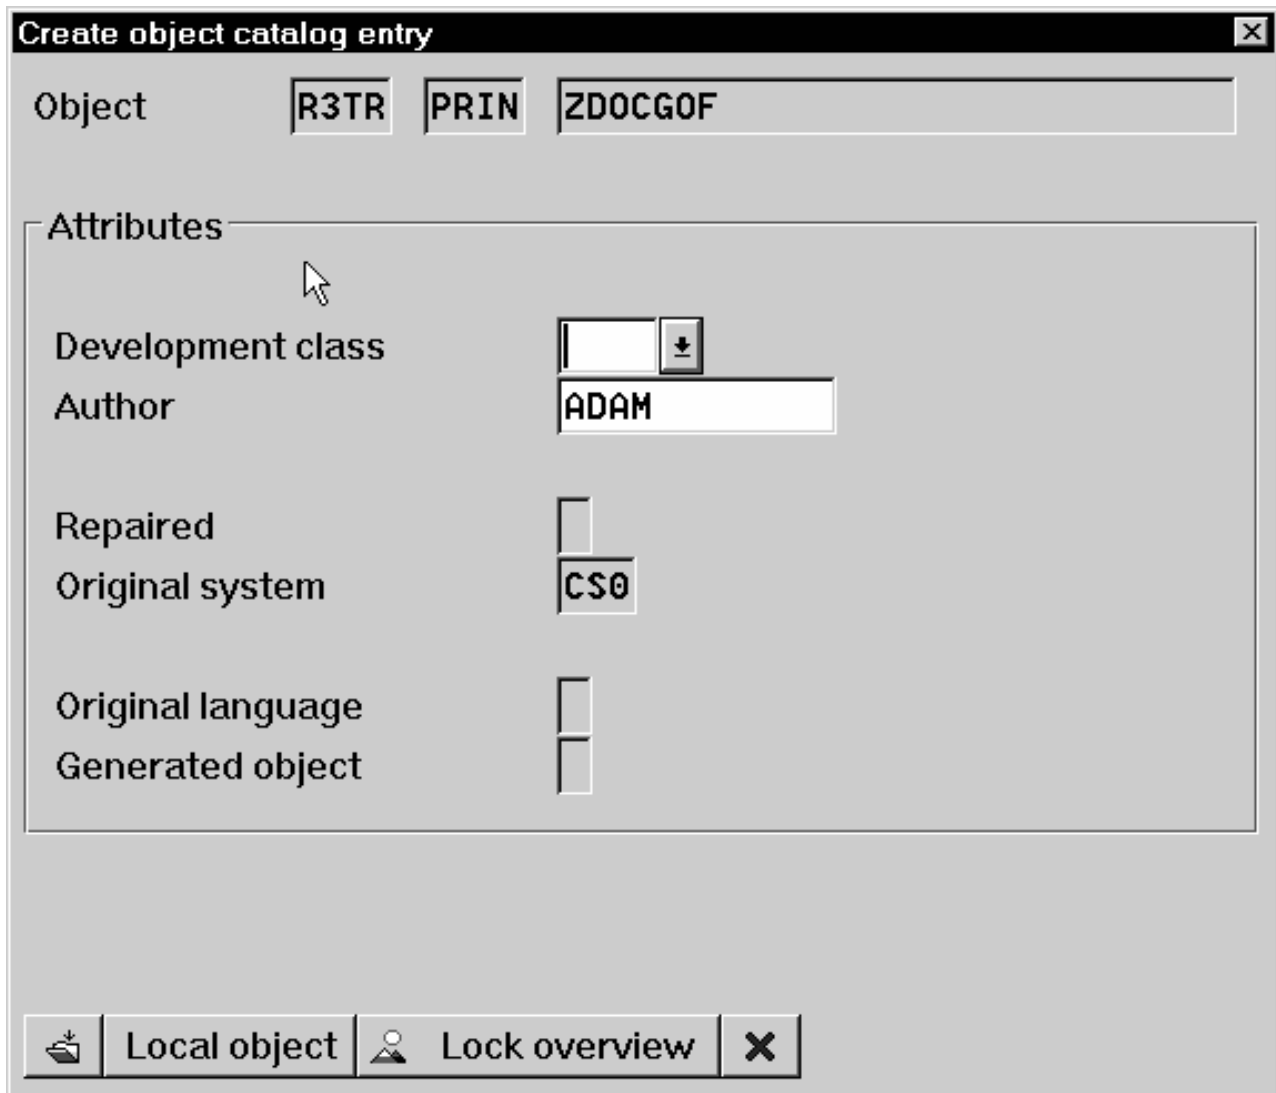

Figure 55. Create Object Catalog Entry window
5. From the Create Object Catalog Entry window (Figure 55 on page 133), decide whether or not you want to be able to copy this customized device type to another SAP system. If you do, specify a **Development class** field value.